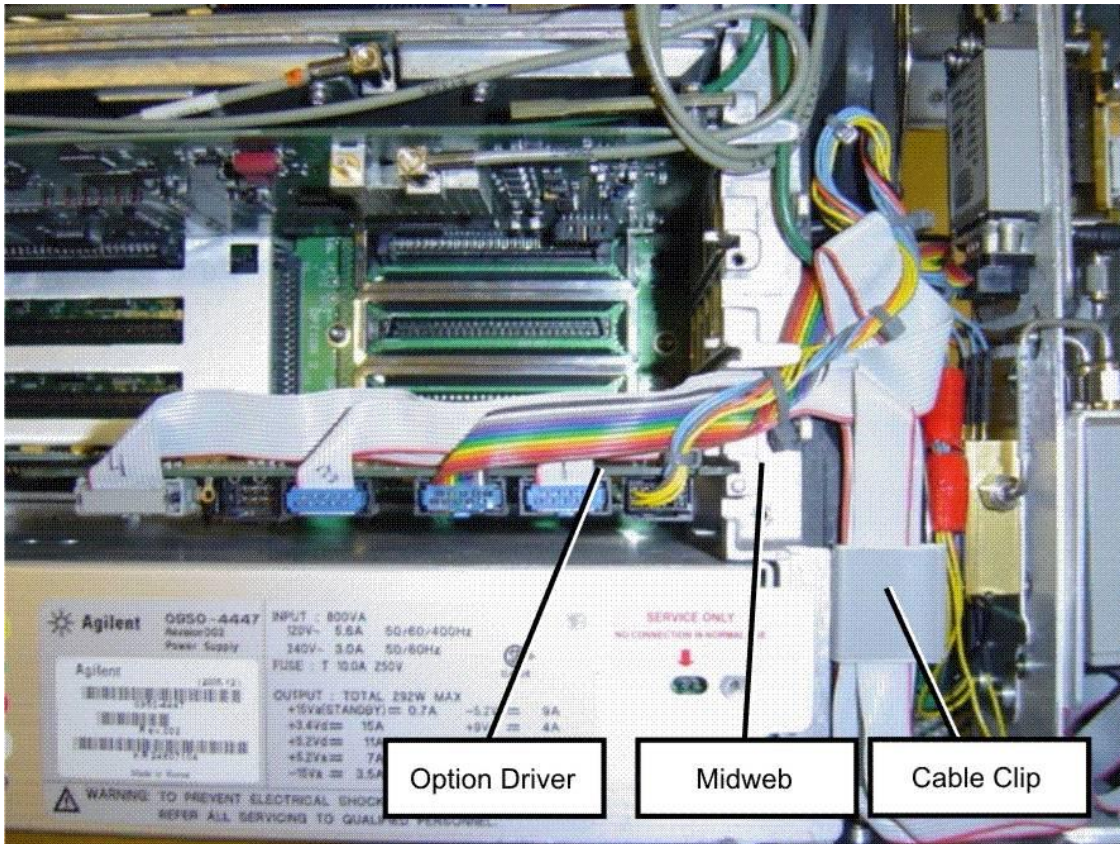

Figure 1. Option Driver assembly location.
2. With the instrument powered down, locate the Option Driver assembly shown in **Figure 1**. Notice how the ribbon cables connected to the board assembly are routed near the instrument fans. This